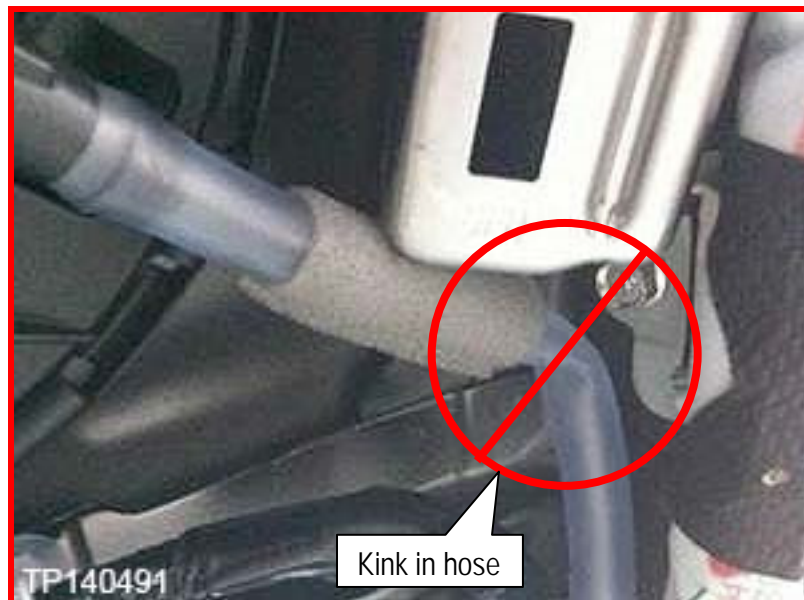

Figure 17
10. Before taping the Moonroof drain hoses in place, center the hose(s) over the clips so that the hose(s) do not kink and create a blockage (example of kink shown in Figure 17).